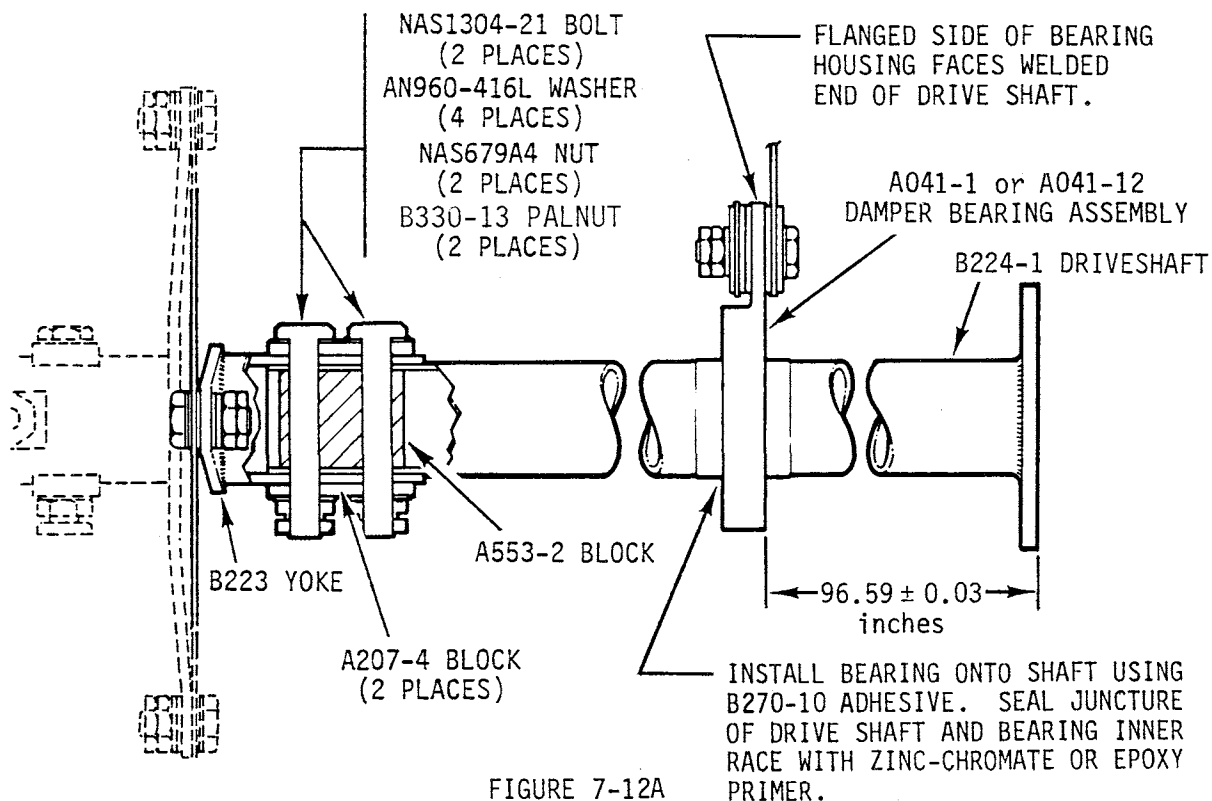

FIGURE 7-12A
- a) The two-piece tail rotor driveshaft consists of a B224-1 driveshaft, B223-1, -2, -3, or -4 yoke assembly, A041-1 damper bearing assembly, A553-2 block and two A207-4 blocks. See Figure 7-12A.